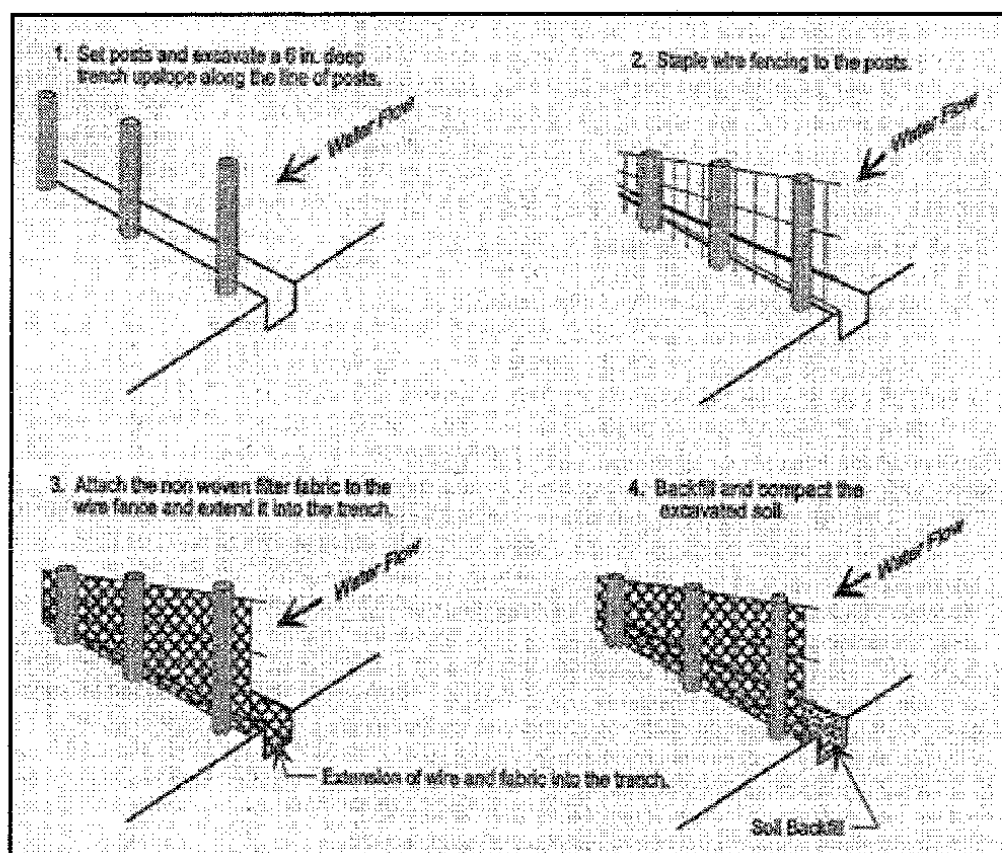

Figure SB-1 Installation of Silt Fence
- Dig trench along the fence alignment as shown in Figure SB-1. Trench depth for Type A & B fences should be at least 6” deep and at least 4” deep for Type C fences.
- Fasten support wire fence for Types A & B fences to upslope side of posts and 6” into the trench (see Figure SB-1).